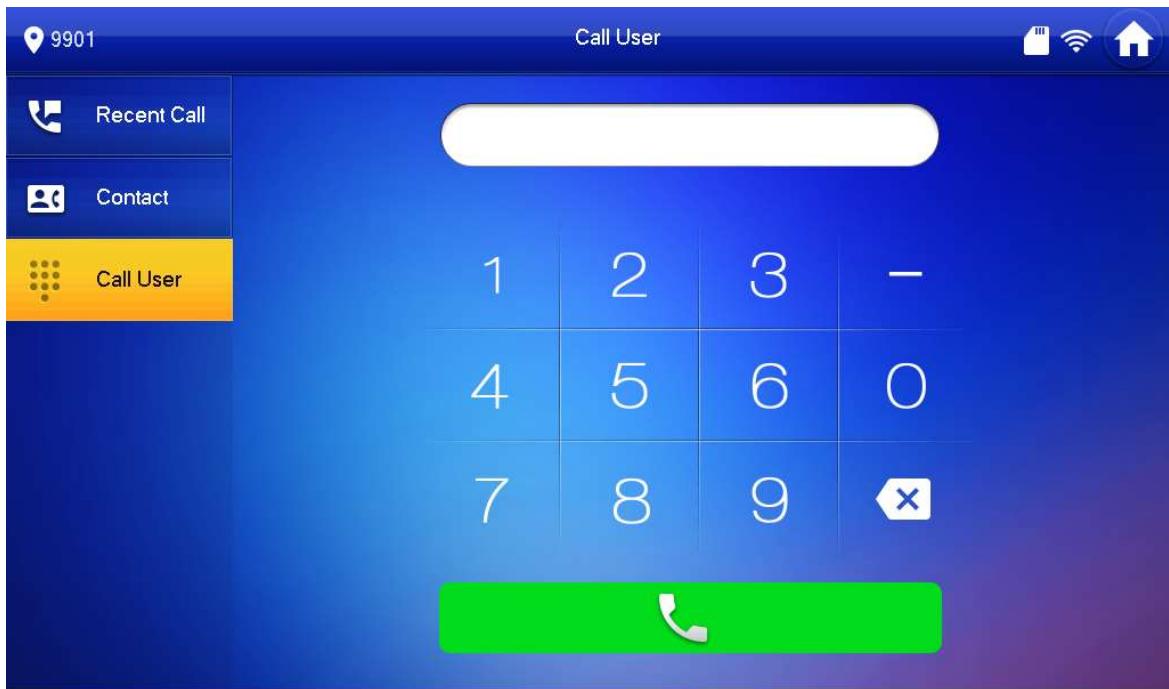

Figure 5-10
Step 1. Select Call>Call User, see Figure 5-10.